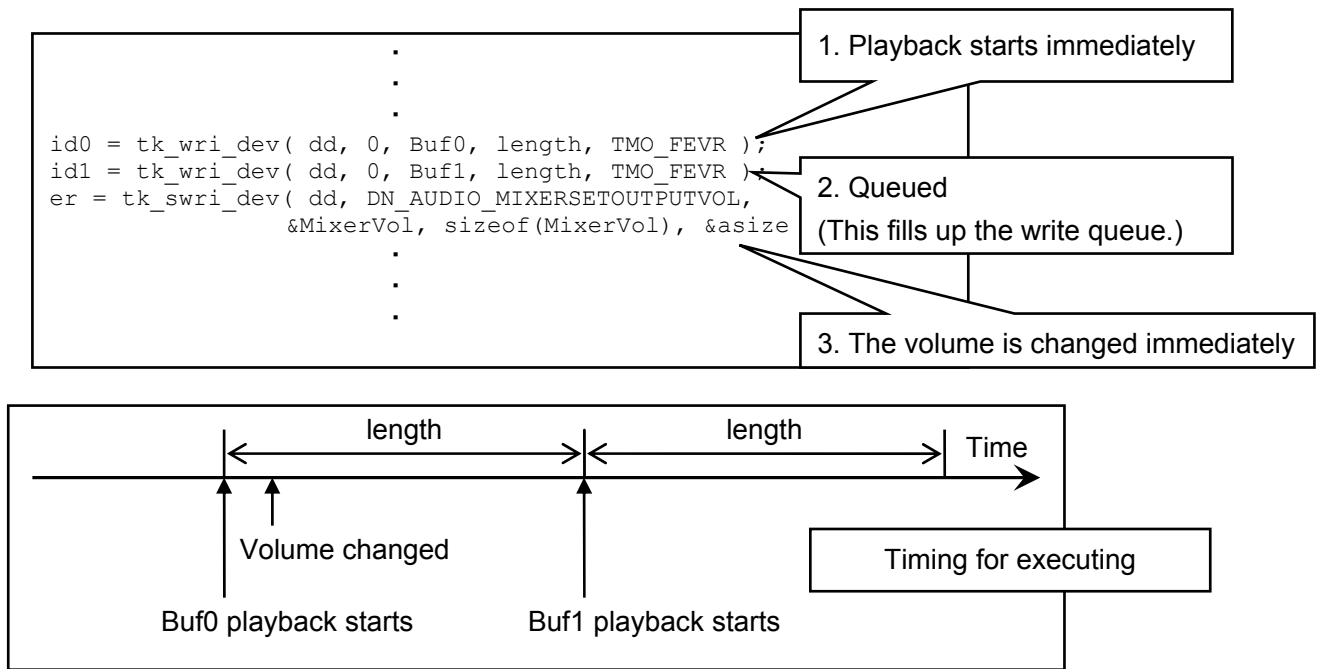

Figure 3. Asynchronous access requests and access to attribute data
- All access requests for attribute data must be immediately executed. In addition, access to attribute data is provided regardless of the queuing status of access requests for device-specific data. In other words, if AUDIO_MAXREQQ=2, even when the queue becomes full of write requests for device-specific data as depicted in Figure 3, if write requests for attribute data DN_AUDIO_MIXERSETOUTPUTVOL are issued, the driver must receive them without any wait for the write to DN_AUDIO_MIXERSETOUTPUTVOL.